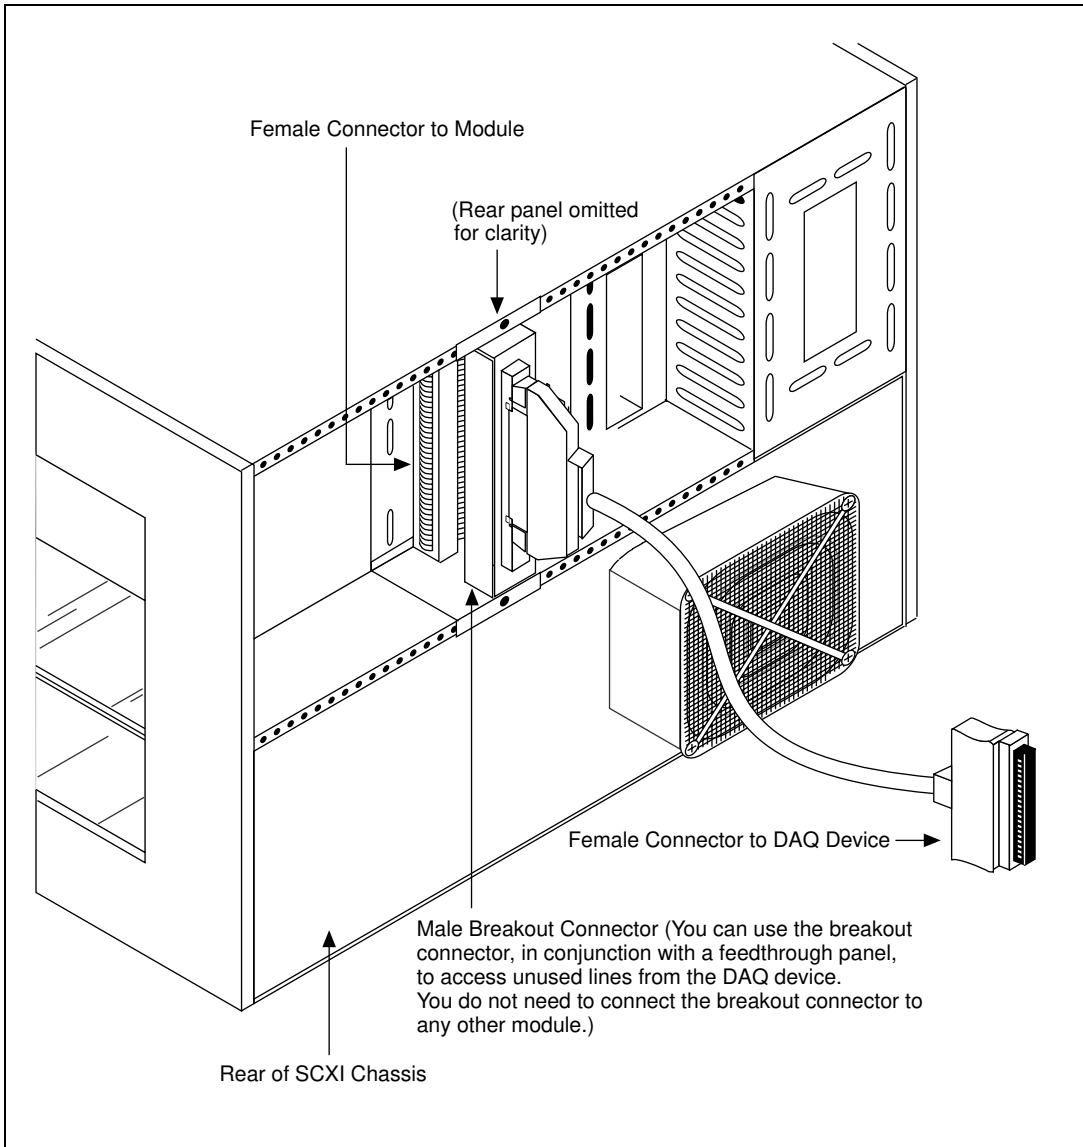

Figure 2-1. Attaching the SCXI Cable Assembly to the SCXI Module and Chassis
2. Connect the connector at the bracket end of the SCXI cable assembly to the rear signal connector of the module. Figure 2-1 shows the cable assembly attached to the SCXI module and chassis.